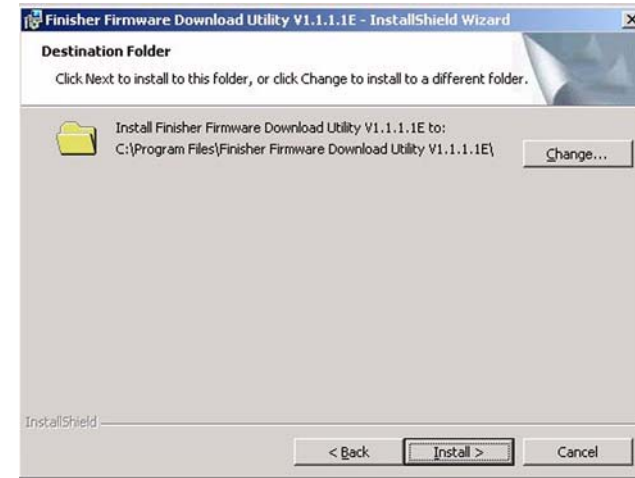

Figure 2 Tool Location
- e. Verify the folder location automatically picked by the tool and select **Install** (Figure 2).